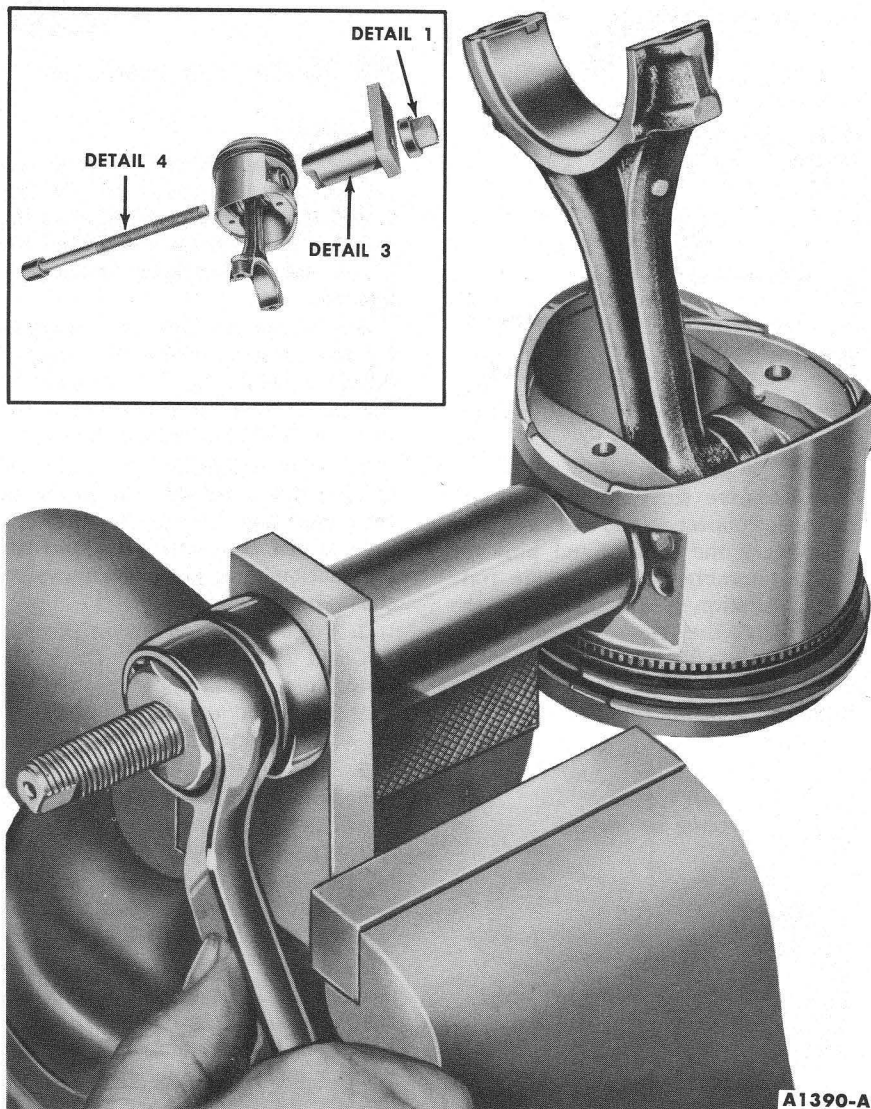

FIG. 62—Piston Pin Removal
3. Remove the piston pin from the piston and connecting rod. (Fig. 62). Remove the piston rings.